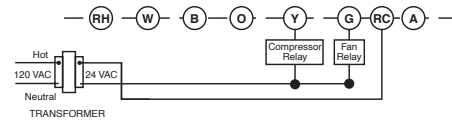
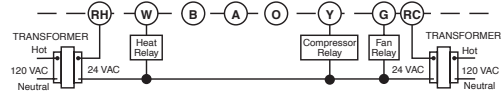

Figure 2. Typical wiring for single transformer heating/cooling system
Figure 3. Typical wiring for two-transformer heating/cooling system
- If your system has more than two wires:** Use the cross reference chart to determine correct wire connections. If you have a four-wire heat/cool system leave the factory installed jumper between **RC** and **RH** attached (see Fig 2.). If your system has five wires remove the factory installed jumper between **RC** and **RH** (see Fig 3.).